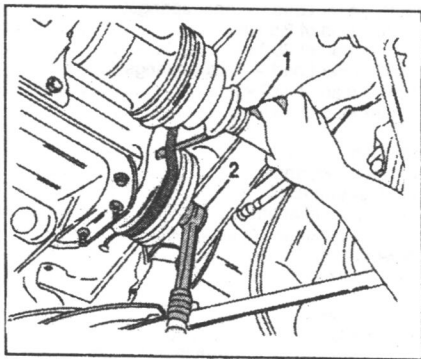

Fig. 1.47. — Removal of the drive belt. Insert a screwdriver (1) below the V-belt and rotate the pulley with a socket (2) until the belt is free.
- Jack up the front of the engine to gain access from underneath. First remove the water pump drive belt. The easiest way to remove the belt is to insert a screwdriver as shown in Fig. 1.47 and then turning the crankshaft pulley with a 35 mm socket. The belt will slip off and can be removed.